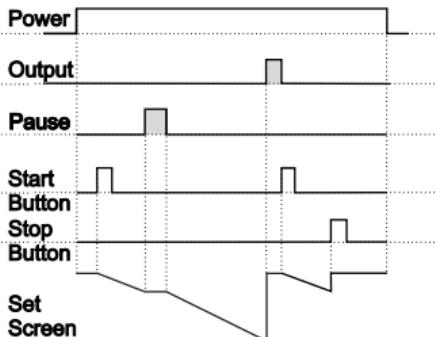

Figure 1.2
1.1.2 If downcount **dEct**=1 and **outF** is **oFF** the control diagram is shown in Figure 1.2